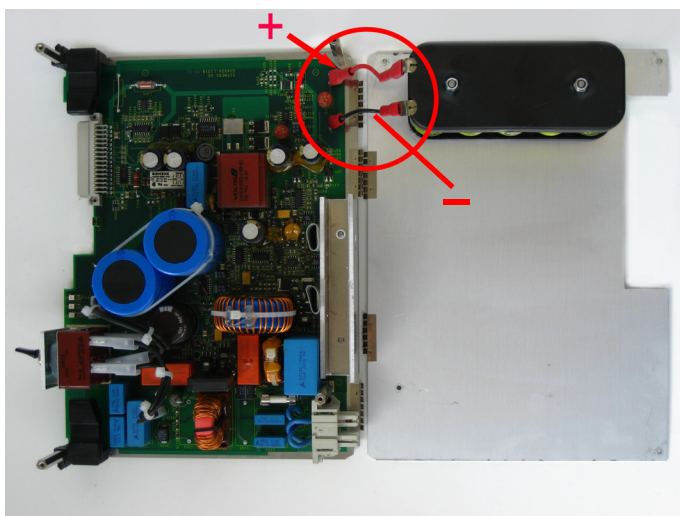

Figure 1-18 Connection cable between power supply module and battery pack
- ❑ Remove the positive line from the battery pack (see Figure 1-18).
- ❑ Remove the negative line from the battery pack (see Figure 1-18).